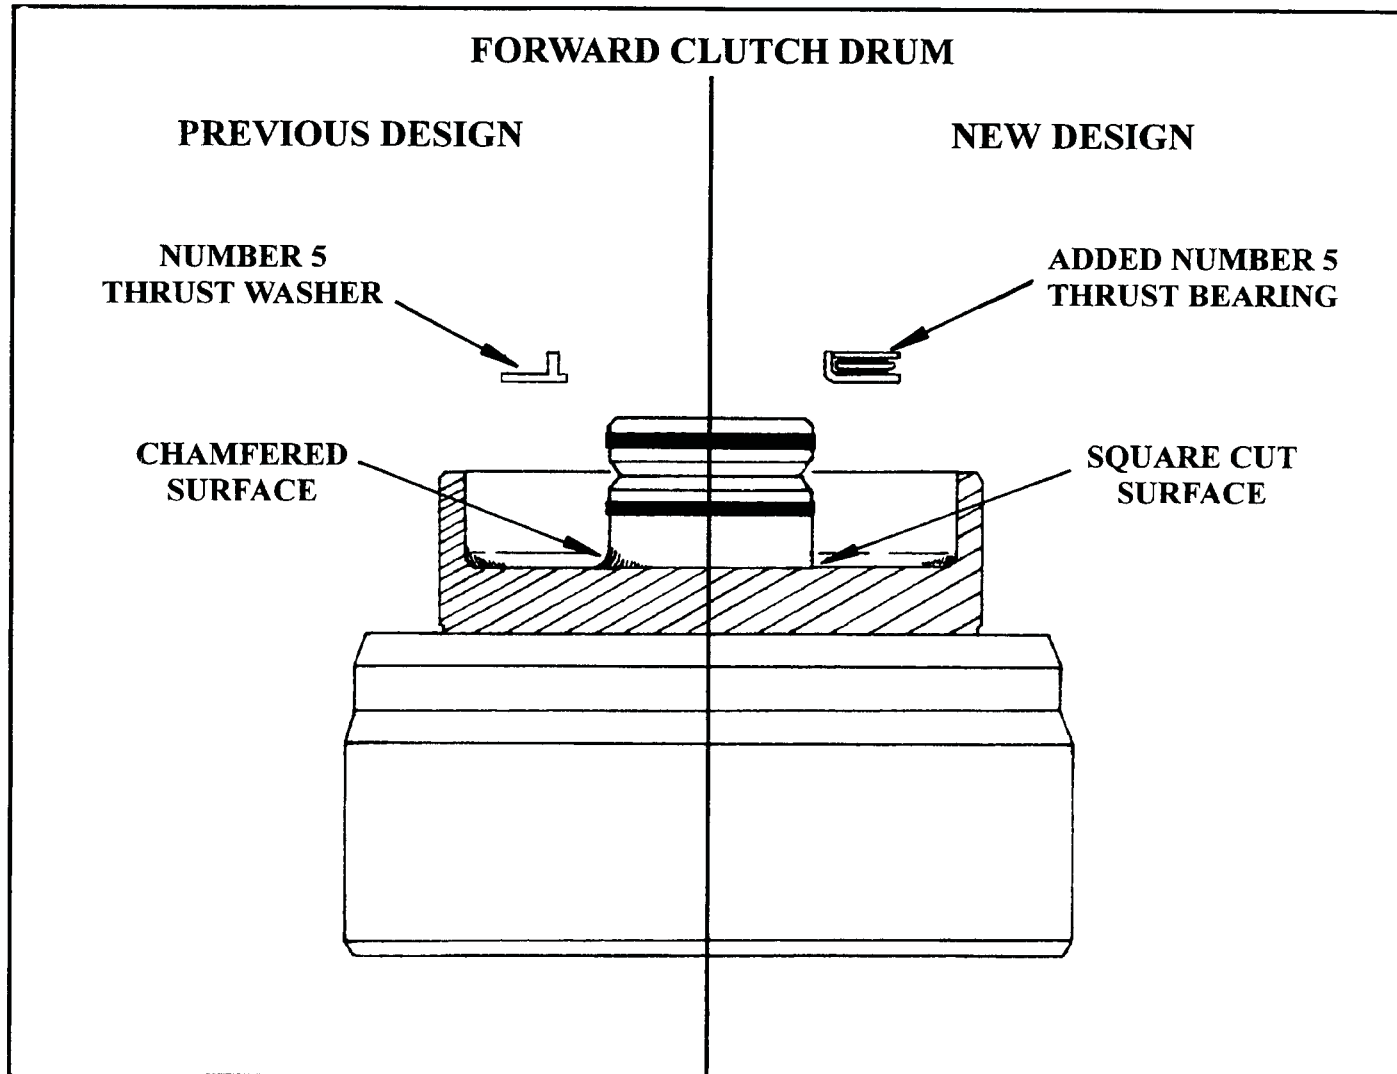

Figure 39
- (5) **FORWARD CLUTCH DRUM** - Was machined at the base of the sealing ring hub to eliminate the chamfer, and provide a flat surface to accommodate the added number 5 thrust bearing, as shown in Figure 39.
- (7) The new design forward clutch drum **WILL** retro-fit back on **ALL** previous models. (See Figure 39).
- (8) The previous design forward clutch drum **CANNOT** be used in 1993 and later models, as the chamfered area at the base of the hub will not let the number 5 bearing seat properly (See Figure 39).